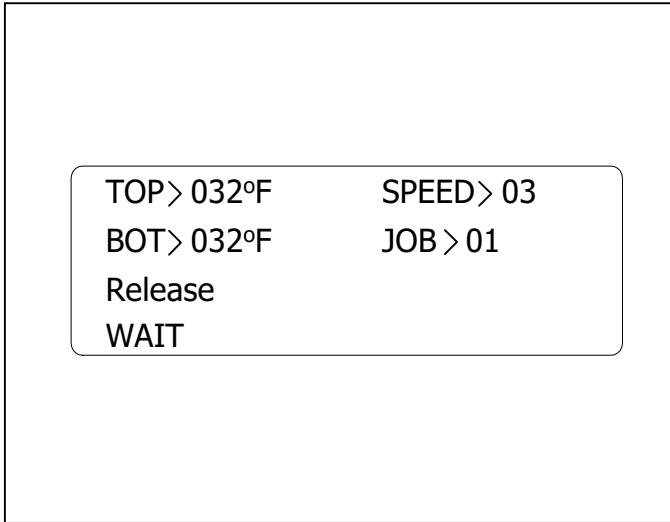

Fig. 6
(Figure 6) Illuminates when the laminator is plugged in and **POWER ON/ OFF** is in the on, (I), position. Displays settings for top heater, bottom heater, speed, Job, mode and ready/wait/ positioning indicator.